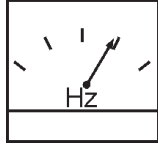

Figure 40. Frequency Meter
5. The generator's frequency meter (Figure 40) should be displaying the 50 cycle output frequency in **HERTZ**.